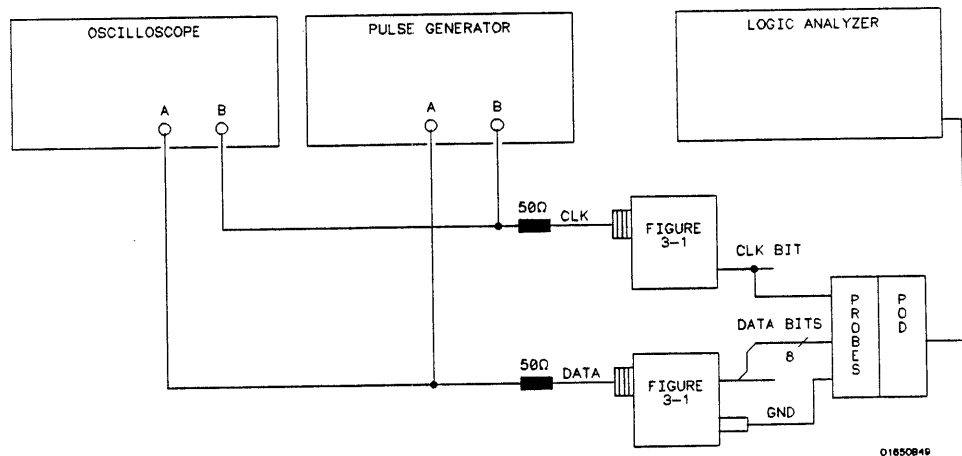

Figure 3-10. Test Setup for Data Test 2
1. Connect the HP 1650B\51B and test equipment as in figure 3-10.